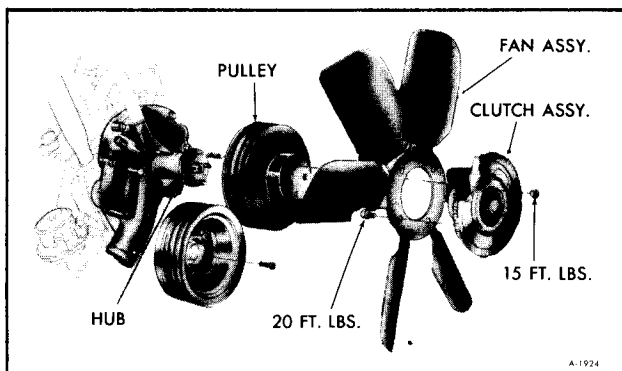

Figure 6-Fan Installation
5. Remove four (4) nuts attaching fan clutch to water pump hub. See Figure 6. Position fan and fan clutch assembly forward in the shroud. Be careful not to allow the assembly to damage the radiator core.
6. Install fan and fan clutch assembly. Torque four (4) nuts to 15 ft. lbs. (See figure 6).
4. Remove the four (4) nuts attaching fan clutch to water pump hub (See figure 6).
5. With assembly in the shroud area and removed from the hub, remove the four (4) attaching bolts that secures fan clutch.